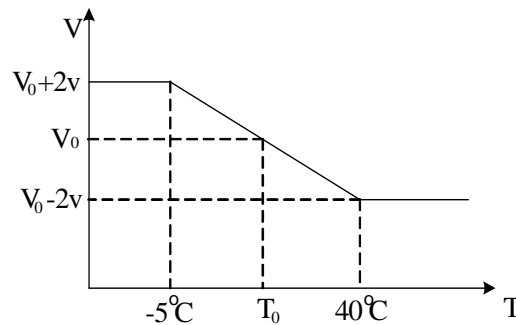

Figure 9
4.4.4 **Battery Charge Temperature Compensation:** The LCU has a temperature compensation function. The compensation voltage is $V_0 \pm 2$ V, and the temperature range is from -5°C to +40°C. The temperature compensation curve is illustrated in Figure 9.